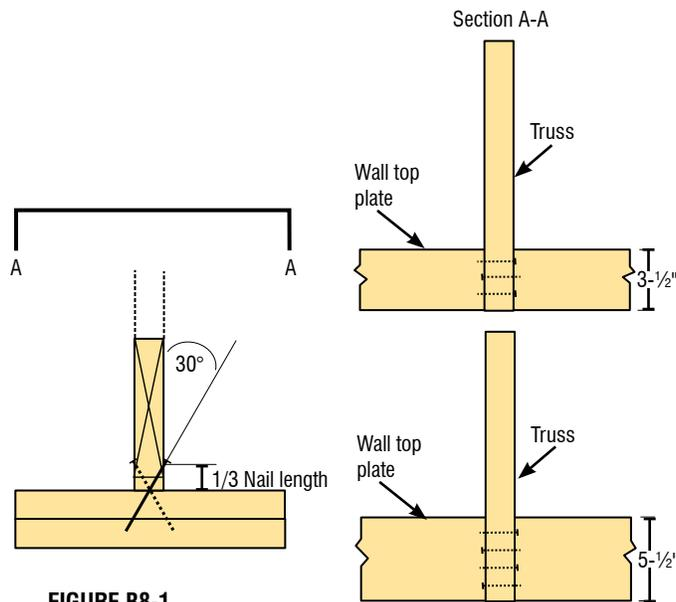

FIGURE B8-1
To get the most out of a Toe-nailed Connection, it is important to Toe-nail correctly. Figure B8-1 illustrates proper Toe-nailing of a Truss to the wood top plates of a bearing wall. The dimensions shown are only meant to serve as an approximate guide. Toe-nailing through a Metal Connector Plate of a Truss does not adversely affect the uplift capacity of the Connection, provided the Truss Plate and lumber are not damaged during installation.
- ✔ When installing Toe-nails, use care to avoid splitting the wood. The Building Designer typically provides nail spacing and minimum end and edge distances. In lieu of such guidance, a well accepted rule is to limit the total number of Toe-nails to three (total, including both sides) for full bearing on a 2x4 top plate (i.e., 3-1/2") and four (total, including both sides) for full bearing on a 2x6 top plate (i.e., 5-1/2") (see Figure B8-1). When using Toe-nails to attach the Top or Bottom Chord of a Truss to the side of a Girder Truss or wood beam, the number of nails used is generally limited to a maximum of three Toe-nails for 2x4 chords and four Toe-nails for 2x6 chords.
Table B8-1 provides the uplift and lateral Load capacities of Toe-nailed Connections consisting of three or four nails for various types of nails and species of wood. The table assumes the nails are installed a distance of L/3 (i.e., length of nail divided by 3) from the top surface of the plate (support) (Figure B8-1). The values listed are for short term Load duration.